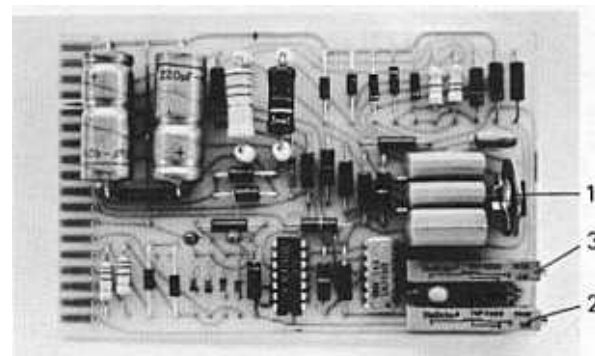

Fig. 5 Measurement and control amplifier A 1
- 3. Measurement and control amplifier A 1 (see Fig. 5)
When the cooling water for the gun is switched on and the necessary throughput is signalled by the water flow control, the heater current (FILAMENT ON) can be switched on. This heater current is interlocked by the relay K 11 of the coil monitor. This means that the heater current is switched off if the current supply to the coil falls below a minimum value (0.4 A) set on the potentiometer R 11. When the high voltage is switched on, a control signal is transmitted by the control amplifier A 1 (Fig. 5) via the EHV, to the thyristor driver printed circuit. By this cathode overheating is avoided if the high voltage supply fails. The cathode heater is switched on in two stages by pressing the push-button FILAMENT ON (time relay K approx. sec.). Hence, to a large extent, the cathode can be protected from distortion.
(see Fig. 5 measuring and control amplifier A 1)
The emission current should now rise to 500 mA without overshooting; otherwise the damping must be increased with the potentiometer R 9 (Fig. 5, item 1)
Adjust the emission current to 500 mA with the "EMISSION CONTROL" potentiometer (Fig. 1, item 5). Then tune the emission current with the potentiometer R 6 (Fig. 5, item 2) until the EHV, high voltage supply, also reads a current of 500 mA (calibrating the emission current control circuit).
Without the high voltage, the emission current meter MJ 1 on the EKS 110 A should read about 1/2 to 1 scale division. Adjust this value with the potentiometer R 8 (Fig. 5, item 3).
Turn the trimmpot R8 (minimum) on the measuring and regulating amplifier (see operating instructions EKS 110 A, Fig. 5, item 2) until the indicator display half a scale division positiv.